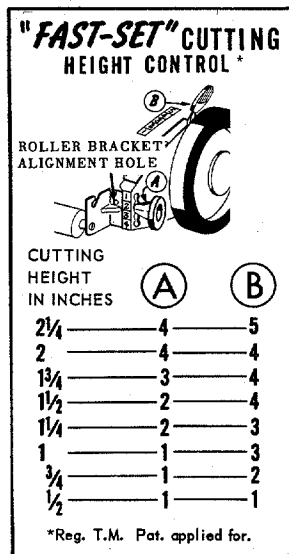

FIG. 3.A
1. Consult the chart located on underside of handle cover, the roller adjusting knobs (A) and wheel adjusting levers (B) must be in positions shown for desired cutting height. EXAMPLE: for 1½" cutting height roller knob must be in No. 2 position, and wheel lever must be in No. 4 position. (Fig. 3 and Fig. 3A)